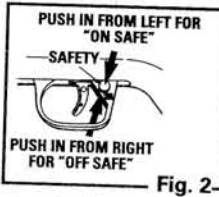

Fig. 2
- Push the safety from the left side all the way in (Fig. 2). The safety is not on unless it is pushed all the way in and the red ring around the safety is not showing. The air rifle will not fire when "On Safe". Even when the safety is "On Safe", you should continue to handle the air rifle safely. Do not ever point the air rifle at any person. Do not ever point the air rifle at anything you do not intend to shoot.